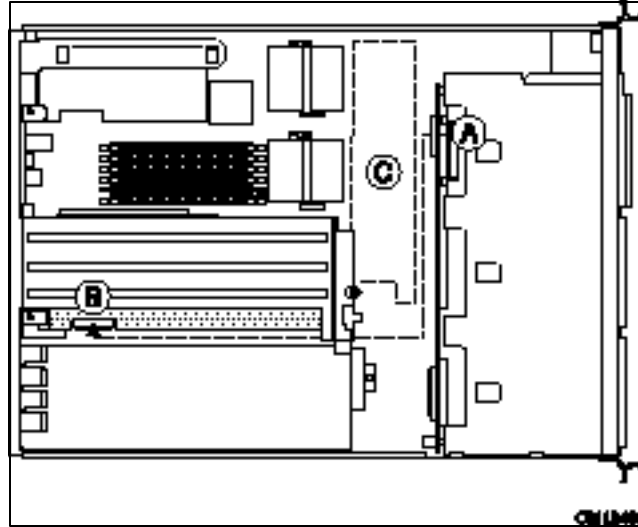

Figure 26. Cable Routing: Tape Drive to SCSI Controller on Full-height PCI Card
4. Connect the cable to the tape drive (see Figure 26, A) and carefully route the folded and taped section on the chassis floor between the fan assembly (C) and the tape drive (A).
5. Connect the cable to the SCSI controller (B) on the full-height PCI card.